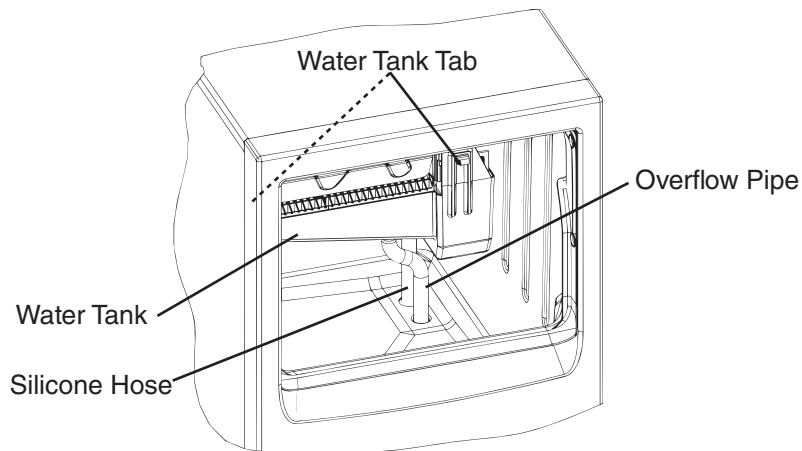

Fig. 3
- 3) Disconnect the silicone hose and overflow pipe. Allow the water tank to drain completely. Next, remove the water tank by pressing down the snaps on the bracket (L) and (R), pulling the water tank towards you slightly, and pushing it down. See Fig. 3.